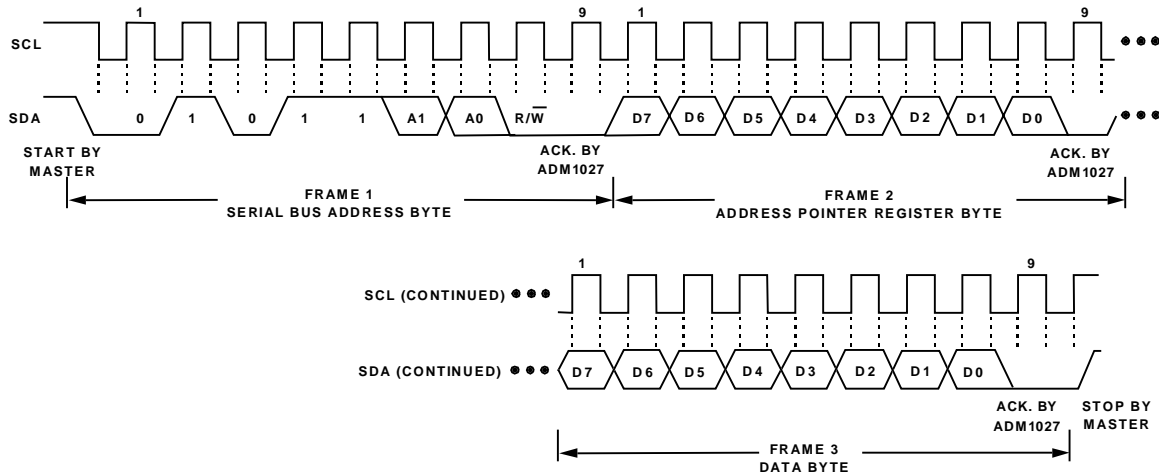

Figure 2a. Writing a Register Address to the Address Pointer Register, then Writing Data to the Selected Register
This is illustrated in Figure 2a. The device address is sent over the bus followed by  $R/\overline{W}$  set to 0. This is followed by two data bytes. The first data byte is the address of the internal data register to be written to, which is stored in the Address Pointer Register. The second data byte is the data to be written to the internal data register.
2. In Figures 2a to 2c, the serial bus address is shown as the default value 01011(A1)(A0), where A1 and A0 are set by the Address Select Mode function previously defined.